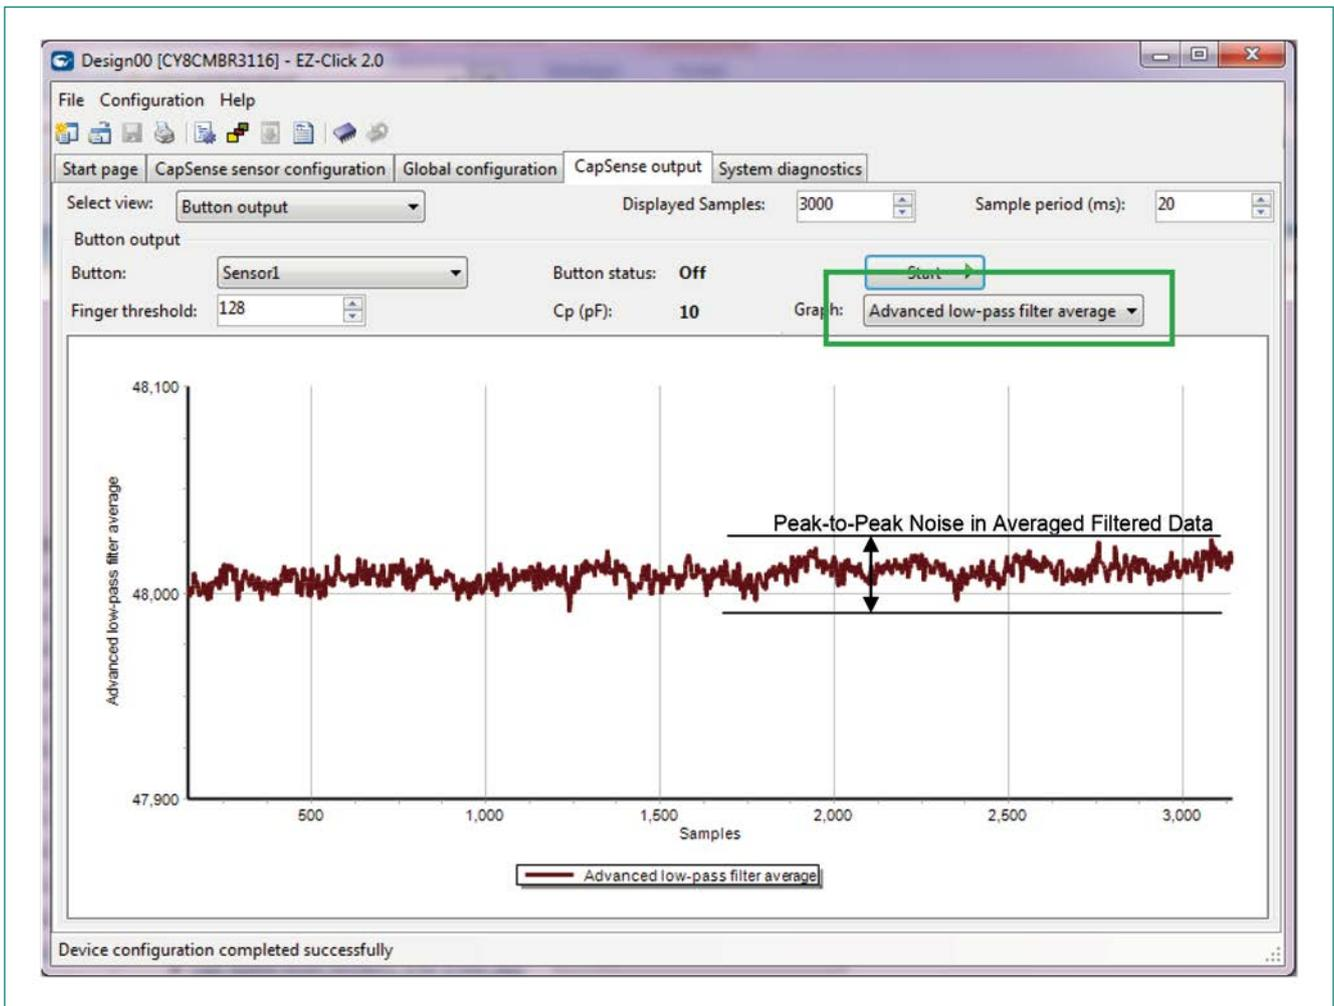

Figure 6-8 Peak-to-Peak Noise in Average Filtered Data
3. Enable the ALP filter (If K-Value is set, EZ-Click automatically enables ALP filter) and measure the peak-to-peak noise in the advanced low pass average filtered data for 3000 samples, as Figure 6-8 shows. The average filtered data can be viewed in the CAPSENSE™ output tab in EZ-Click.